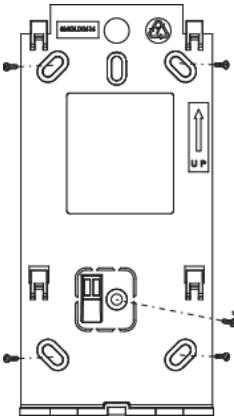

Figure 3
3. Use the mounting holes as a template and secure the mounting bracket to the wall using 4 screws and 1 extra screw for the tamper (see Figure 3).